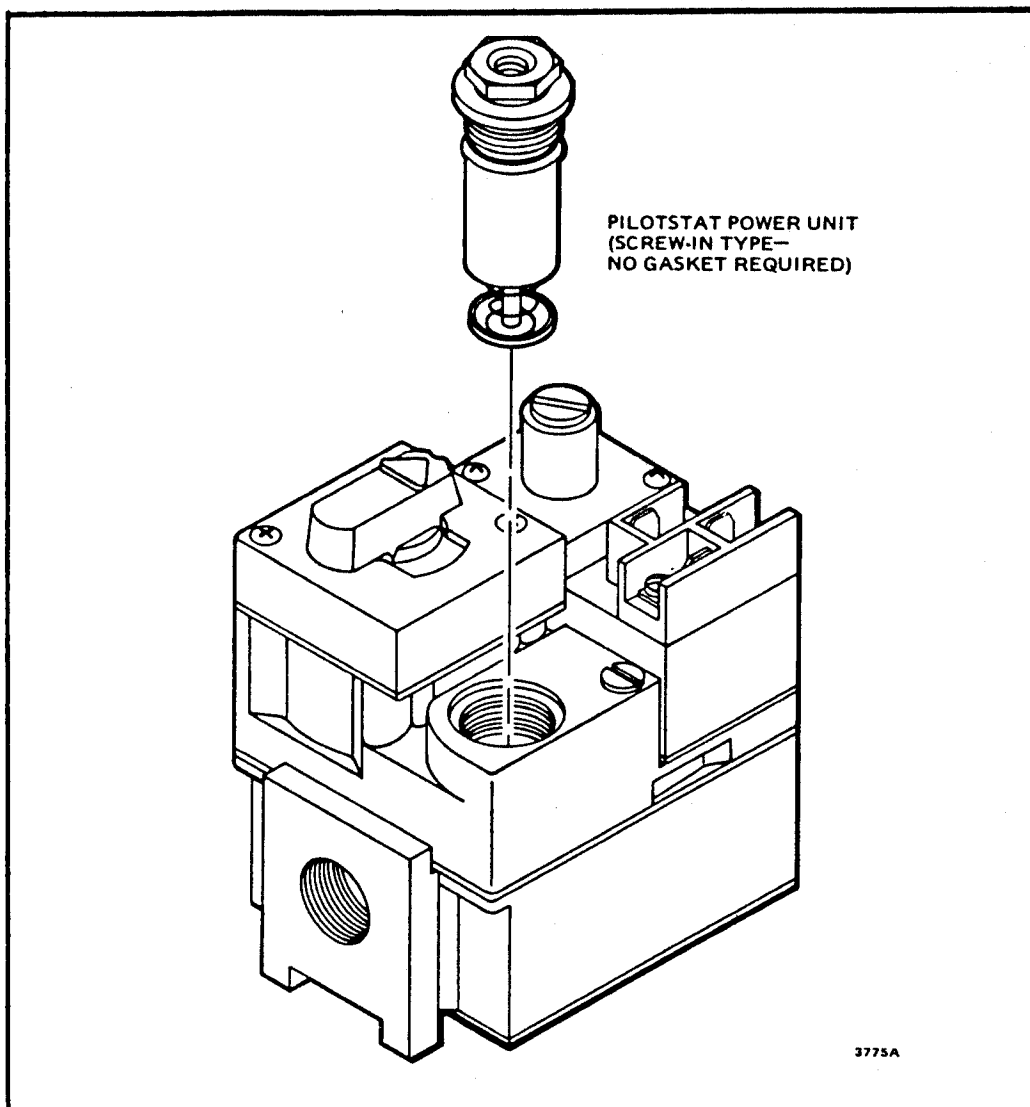

Fig. 17—Pilotstat power unit location V800 and V500 valves.
3. Remove the power unit using a wrench. See Fig. 17 for location.